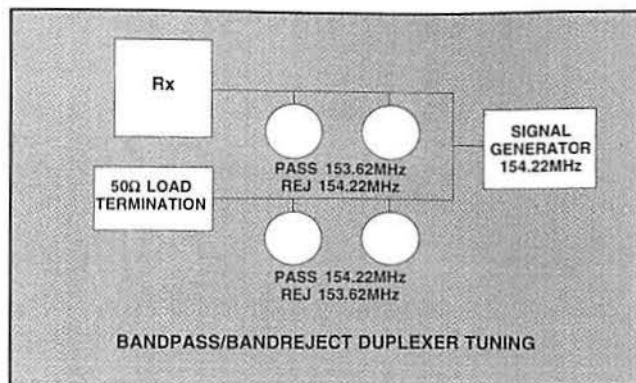

Figure 5. Use this equipment configuration to measure the receiver noise threshold in Step 2 of the bandpass/bandreject duplexer adjustment procedure.
(2) Connect the signal generator to the antenna port. (See Figure 5 above right.)